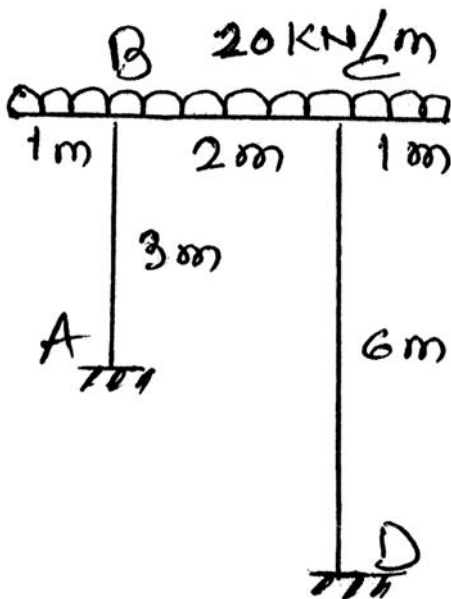

Fig. 1, Q. 4
4. Using Moment Distribution Method, draw BMD and SFD for the frame loaded and supported as shown in fig 1. EI is constant. 16